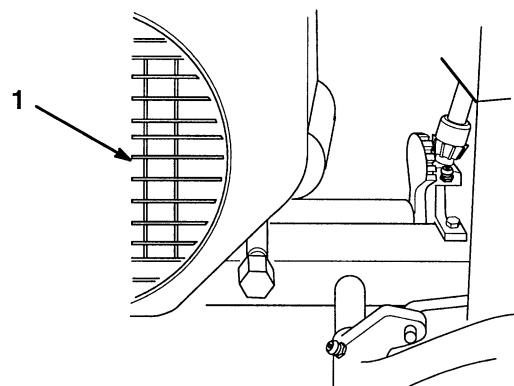

Figure 25
1. Clean off engine air intake (Fig. 25).